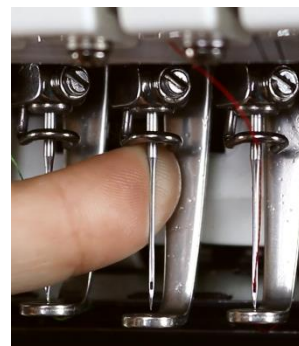

Figure 25
5. With the long groove facing the front of the machine, insert the new needle by placing the point through the presser foot and then inserting the butt into the needle hole until it can be inserted no further (Fig 25).